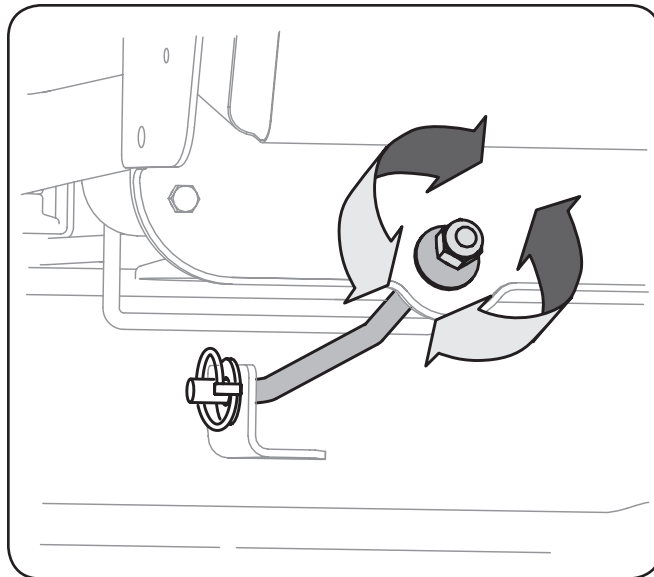

Figure 6-4
1. Locate the hex lock nut on the end of the deck hanger rod. See Fig. 6-4.
3. To *lower* the front of the deck, loosen (thread outward) the hex nut, away from the front hanger bracket. See Fig. 6-4.